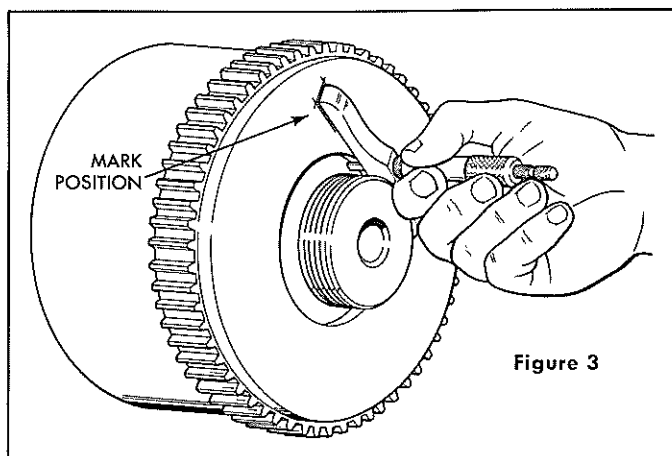

Figure 3
**5. HEAT METHOD** — Clean bluing from shaft and hub bore. Mount cold hub on shaft as in Step 3. Position depth micrometer or equally accurate device on hub face as shown in Figure 3 and mark its location